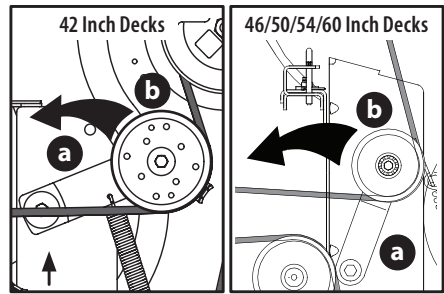

Figure 41
- a. Using the deck lift handle, the deck lift pedal and knob or the deck lift pedal and pin, raise the deck to the position that provides the most horizontal run of the belt between the deck idler pulleys and the PTO pulley on the bottom of the engine (Figure 41).
- b. Working from the middle of the tractor, pivot the idler bracket (a) and movable idler pulley (b) rearward just far enough to lift the belt up and over the spindle pulley (Figure 41).